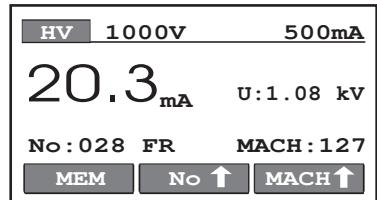

Fig.42. IMemory and machine number information
- The following window (fig. 42) is displayed for a moment (if for example an HT test has been carried out) :